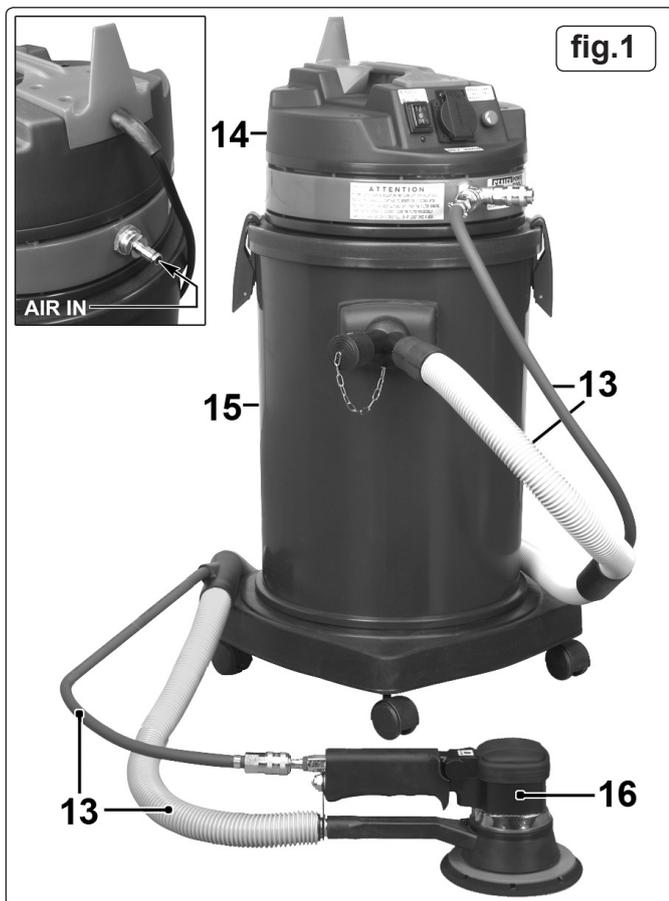

fig.1
3.1. Contents. (Shown In figs.1 & 2)
- 4.1.4. Fit an external air line system onto the vacuum system air inlet (fig.1). See section 5 for air supply information. Seal and retain with a hose clip and turn the air supply on.